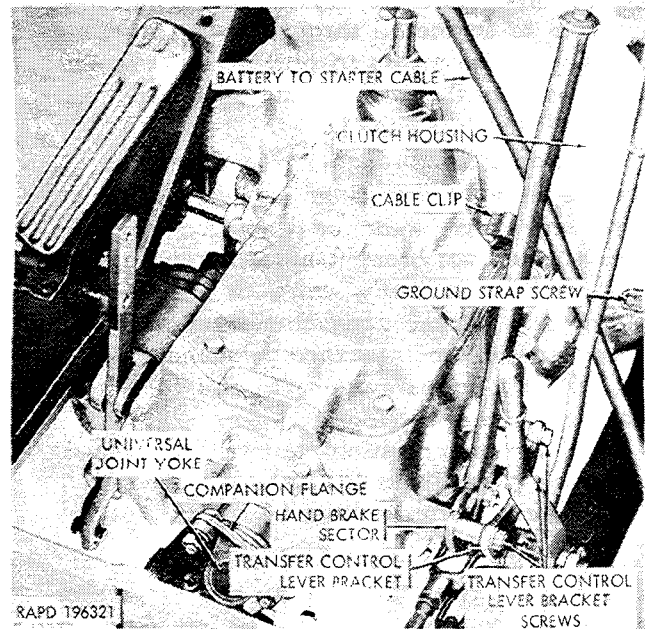

Figure 2-79. Disconnect points in driver's compartment.
(3) Remove the cable grommets at the battery box and floor panel as described in *d* (3) above.
(4) Disengage the cable from the cable clip (fig. 2-79) on the transmission.
(5) Pull the front end of the cable back from the engine compartment. Remove the battery end of the cable from the battery box, two grommet retainers and the floor panel, and remove the cable from the underside of vehicle.
(1) From the underside of the vehicle, place the battery-to-starter cable over the transmission and push the starter terminal end of the cable into the engine compartment below the accelerator shaft.
(2) Insert the other end of the cable through the opening in the floor panel, the two grommet retainers, and the opening in the battery box.
(3) Install the two grommets, and secure the grommet retainers as described in *e* (2) and (3) above.
(4) Connect the cable to the starter terminal (fig. 2-24) and install the special terminal nut. Tighten nut. Install the other end of the cable on the bolt (cable terminal) at the positive (+) post of the inner battery (fig. 2-23) or the rear battery (fig. 2-73). Install a 3/8-16NC nut on the bolt and tighten. Engage the cable in the cable clip (fig. 2-79) on the transmission.